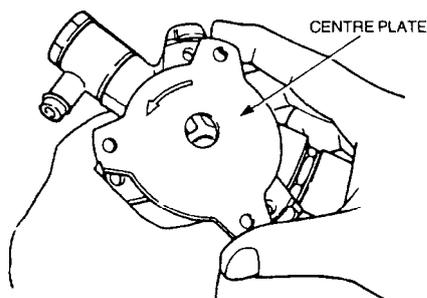

Figure 306 Installing the Centre Plate
- (3) Fit a new O ring on the pump housing, install the centre plate and turn the plate to engage the three lugs provided in the housing (Figure 306).